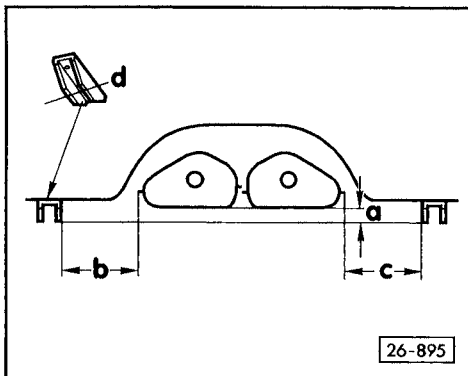

Fig. 2 Align catalytic converter
- Align catalytic converter ⇒ Fig. 2, page 26–5